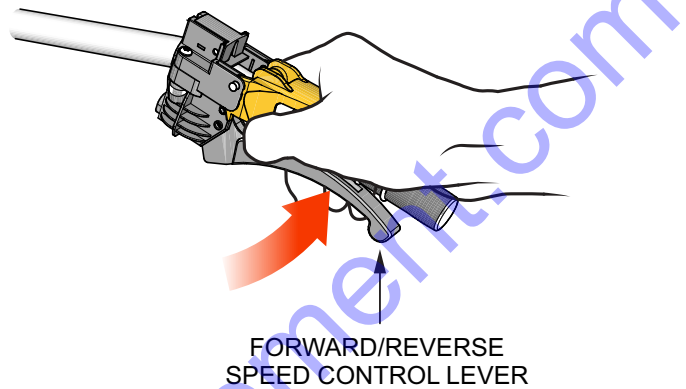

Figure 24. Forward/Reverse Speed Control Lever (Electric)
3. Slightly squeeze the **forward/reverse** speed control lever (Figure 24) until the buggy begins to move in a **forward** direction.
6. Slightly squeeze the **forward/reverse** speed control lever (Figure 24) until the buggy begins to move in a **reverse** direction.